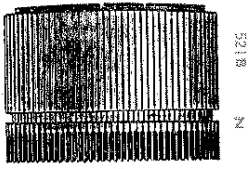

Fig. 6
The cylinder (Fig. 6) which fits inside the cam shell and is secured to the base by two screws (521C), has grooves cut in it all the way round, in which the needles work; they are held in position by a belt (515A) which fits in the groove (Z) running round the cylinder.
The belt (Fig. 9) is placed round the cylinder in the groove Z (Fig. 6) and prevents the needles from coming against the yarn guide and being broken or bent.